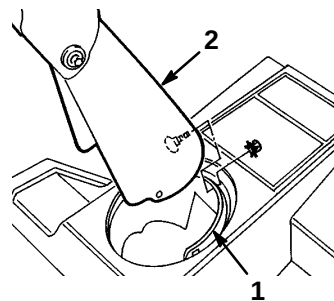

Figure 5
1. Set the discharge chute over the chute ring (Fig. 5).
2. Align the hole in the back of the chute with the center hole in the ring (Fig. 5)
3. Install a carriage bolt and a locknut through the center holes, with the locknut on the outside (Fig. 5)